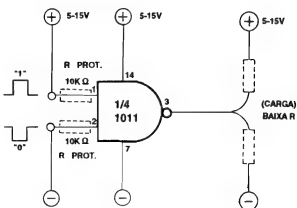

FIG. 3
- FIG. 3 - UM GATE TÍPICO C.MOS